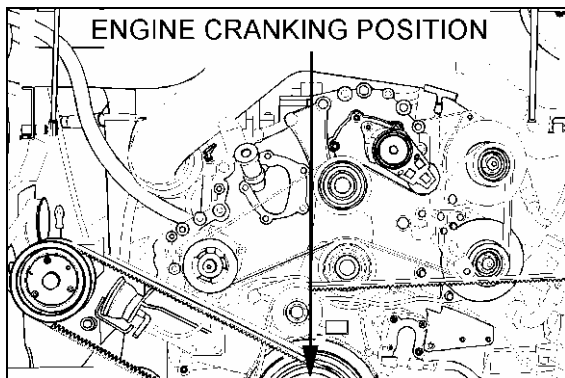

FIGURE 17: ENGINE CRANKING POSITIONS 01061
14. Remove the access plug from the flywheel housing on the R.H. side below starter. From access plug, remove the 12 converter-to-flexible plate attaching screws. Cranking the engine to gain access to the attaching screws may be done by turning the crankshaft pulley using a suitable adapter (fig. 17).